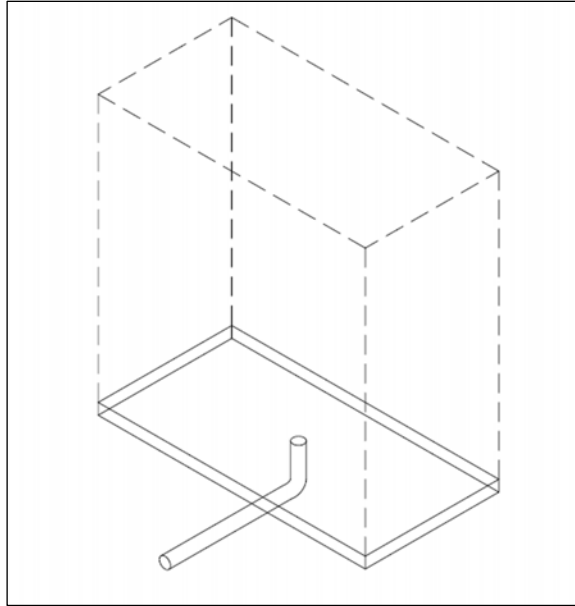

Figure 93: Pad Drain for Freestanding Switchboard
- When water intrusion can reasonably be expected, the customer must provide a means to prevent water from accumulating in the pull and termination sections. This can be done by providing a water collection system—a concrete well, for example—under the pull and termination sections along with a gravity drain or sump pump to remove any standing water. **Figure 93** shows a pad drain for freestanding switchboard.